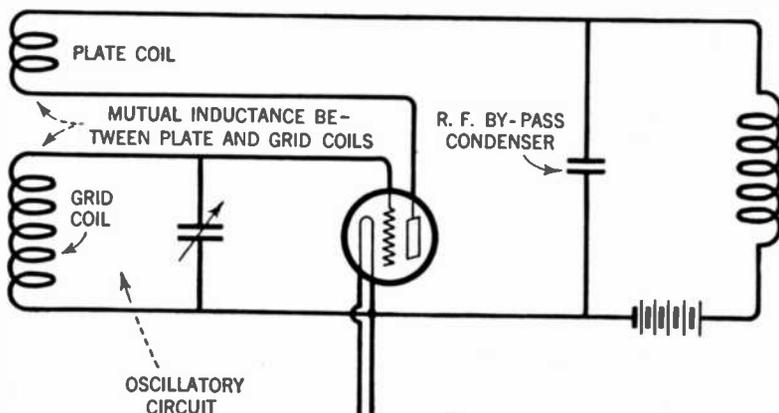

FIG. 36.—A fundamental drawing of the inductive feed-back type oscillator.
*Answer.* The theory of a vacuum tube oscillator is explained with references applied to the simple inductively coupled feed-back circuit of the type shown in Figure 36. There it will be observed that a small coil inserted in series with the plate circuit is closely coupled mechanically with the grid coil of the tube circuit. It is evident that all of the plate current passes through the plate coil and accordingly magnetic lines will encircle its turns and also encompass the turns of the grid coil.